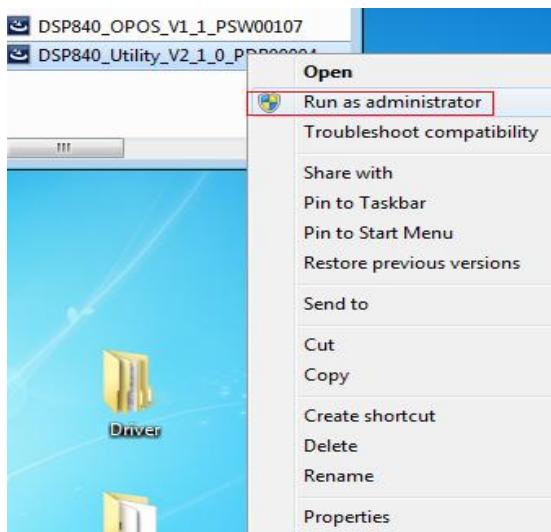

Figure 2-1 Install the DSP840 Utility
- ◆ Select the DSP840.Utility\_V2\_1\_0\_PDR00004.exe press mouse right key then click Run as administrator. See figure 2-1.